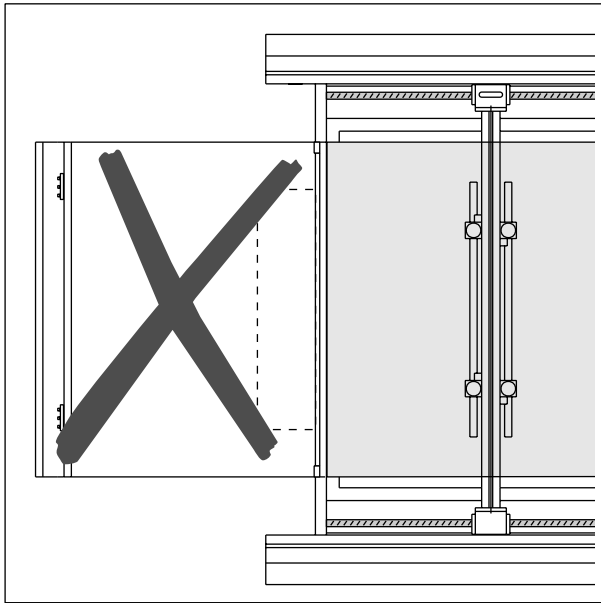

Figure 6-1. Keep clear of this area while the safety bar is closed
**Do not step into the area indicated in Figure 6-1 when the safety bar is closed.**